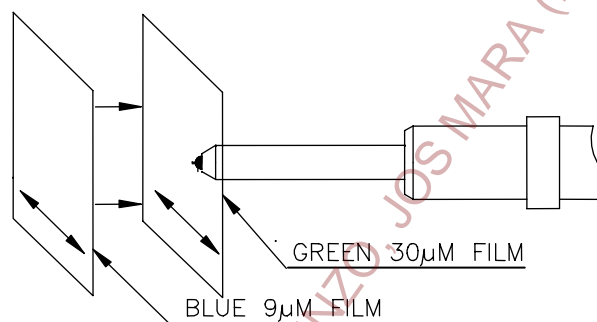
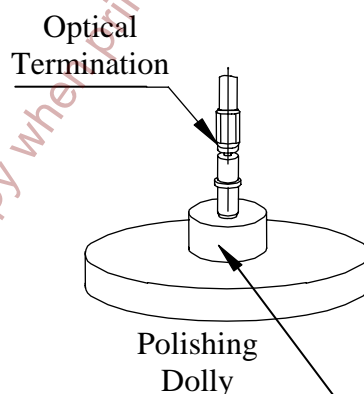
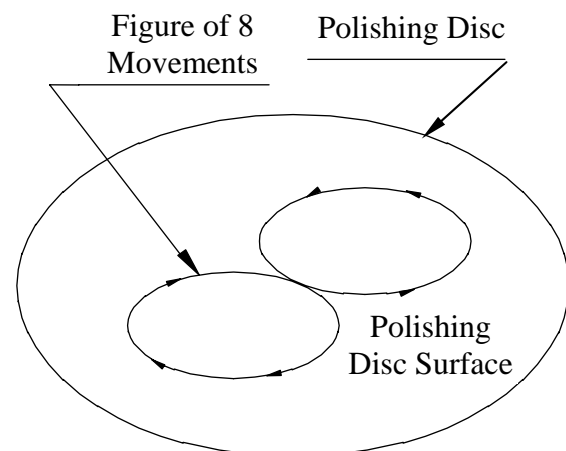

Figure 8 Lapping the Optical Face
Figure 9 Polishing Dolly
Figure 10 Polishing Movements
- 3.1.2 Abraid the remainder of the fibre and epoxy resin in the same manner, using 9 micron lapping film (blue aluminium oxide). Complete sufficient strokes until the fibre is wafer thin and level with the end of the contact. **Do not remove the epoxy resin bead completely.** See Figure 8.
- 3.1.4 Fit the MC5 termination into the polishing dolly (455367). Refer to Figure 9. Apply a few drops of water on the diamond medium DM disc (454483) mounted on the rubber polishing pad. Using light pressure, polish the optical face of the contact for 10 cycles in figure 8 movements on the disc. See Figure 10. Wipe the disc and contact end face clean to remove debris using a tissue or lint free cloth moistened with isopropyl alcohol.